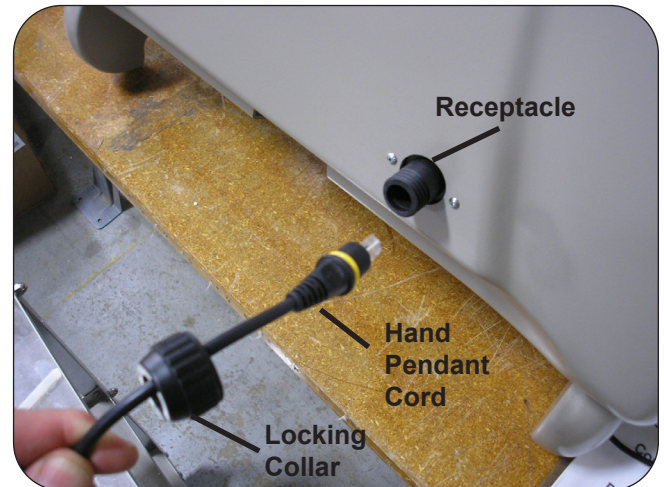

Figure 8
2. Insert the cord into the hand pendant receptacle on the backrest shroud. (Figure 8). Make sure the tab on the plug is aligned with the groove in the receptacle, and plug is fully seated.